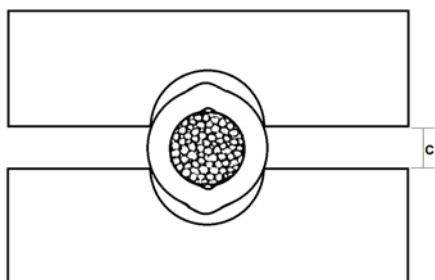

Figure 5: fitting has been rotated 90°. Dies have been closed to first contact fitting.
- Open dies and rotate the fitting 45 degrees to 90 degrees (1/8 to 1/4 turn) and again close dies approximately one-half of the distance between first contact and fully closed. (See Figures 5 and 6).